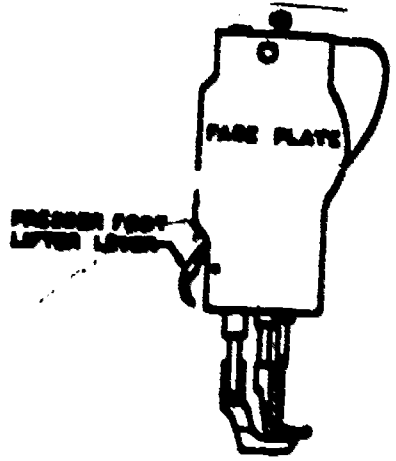

Figure 5. Location of Presser Foot Lifter Lever.
2. Locate the hand presser foot lifting lever at the back of the head, as in figure 5.